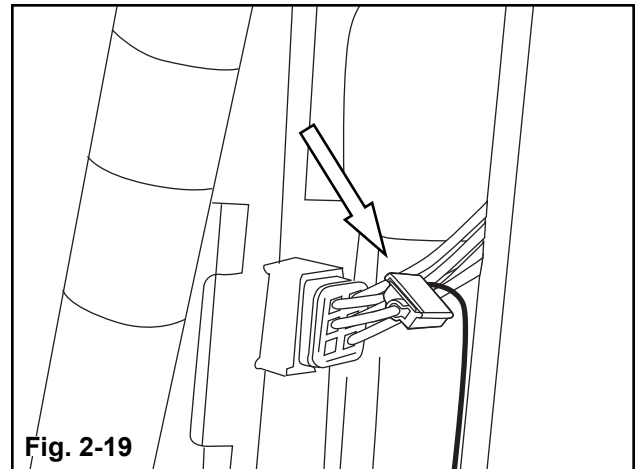

Fig. 2-19
- d) Using IDC Wire Tap, connect **GREEN wire** of the EC mirror harness to the located reverse circuit. (Fig. 2-19)